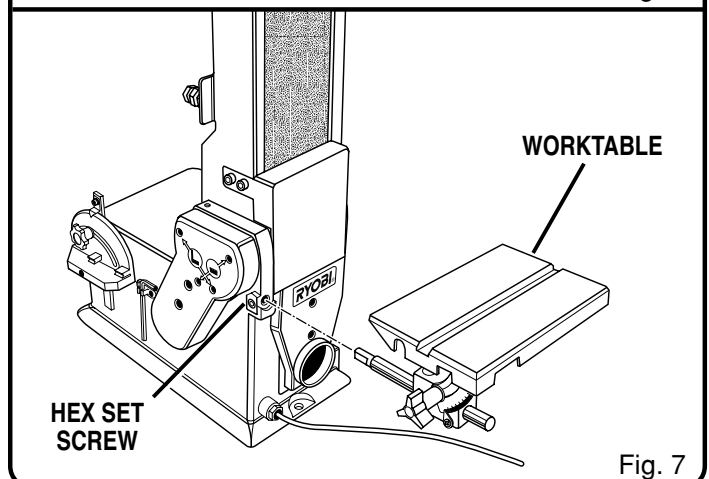

Fig. 7
See Figure 7.
- Insert the index pin into the hole as shown in figure 7.